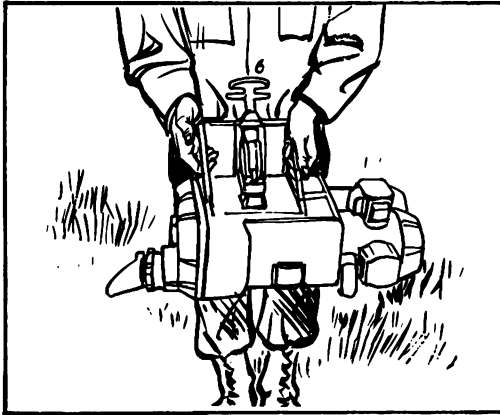

Figure 8. Proper handling of optical sight.
- a. Pick the sight up as shown in figure 8.